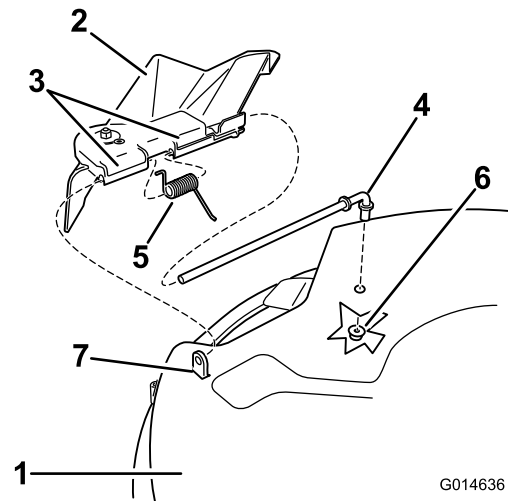
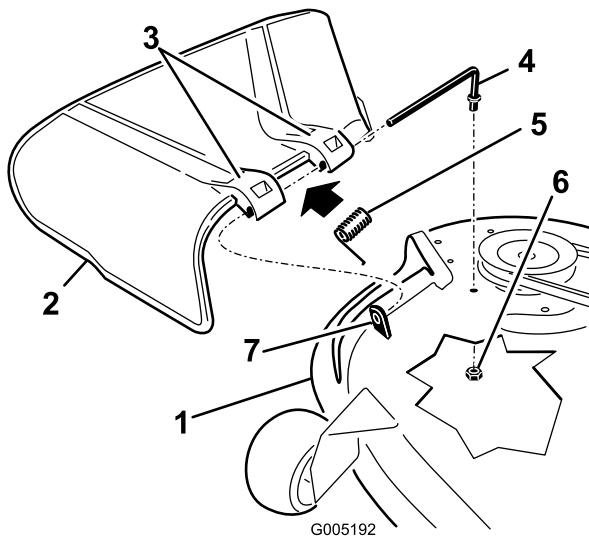

Figure 72
Figure 73
1. Remove the nut (3/8 inch) from the rod under the mower (Figure 72 and Figure 73).
- Slide the rod out of the short stand-off, spring, and grass deflector (Figure 72 and Figure 73).
- Replace the grass deflector (Figure 72 and Figure 73).
- Slide the rod through second grass deflector bracket (Figure 72 and Figure 73).
- Secure the rear end of the rod into the mower with a nut (3/8 inch) as shown in Figure 72 and Figure 73.